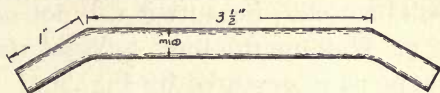

FIG. 199.—FIRST BENDS IN PIN OF SWIVEL.
5. **Shaping ring and welding.** — In shaping the ring, bend the two ends of the round piece of iron as shown in Fig. 199. Then bend